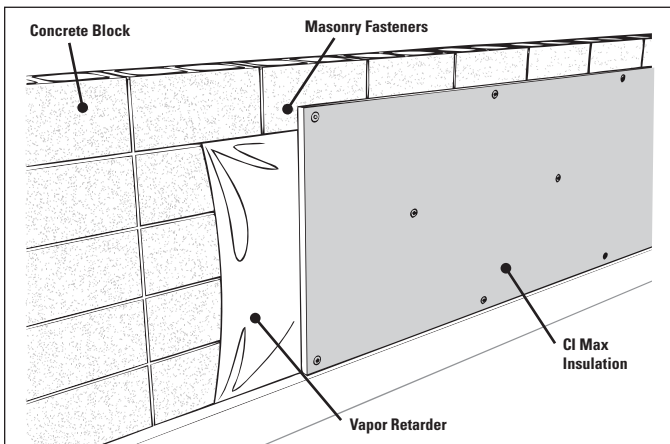

Figure 1. CI Max boards mechanically fastened
1. Fasten CI Max insulation boards to the interior of the wall using power-driven masonry nails with 1½-inch minimum metal washers or caps, or other suitable masonry fastener. For crawl space wall installation, CI Max insulation should be installed horizontally (as shown in Figure 1). For basement installations, CI Max insulation can be installed either vertically or horizontally.